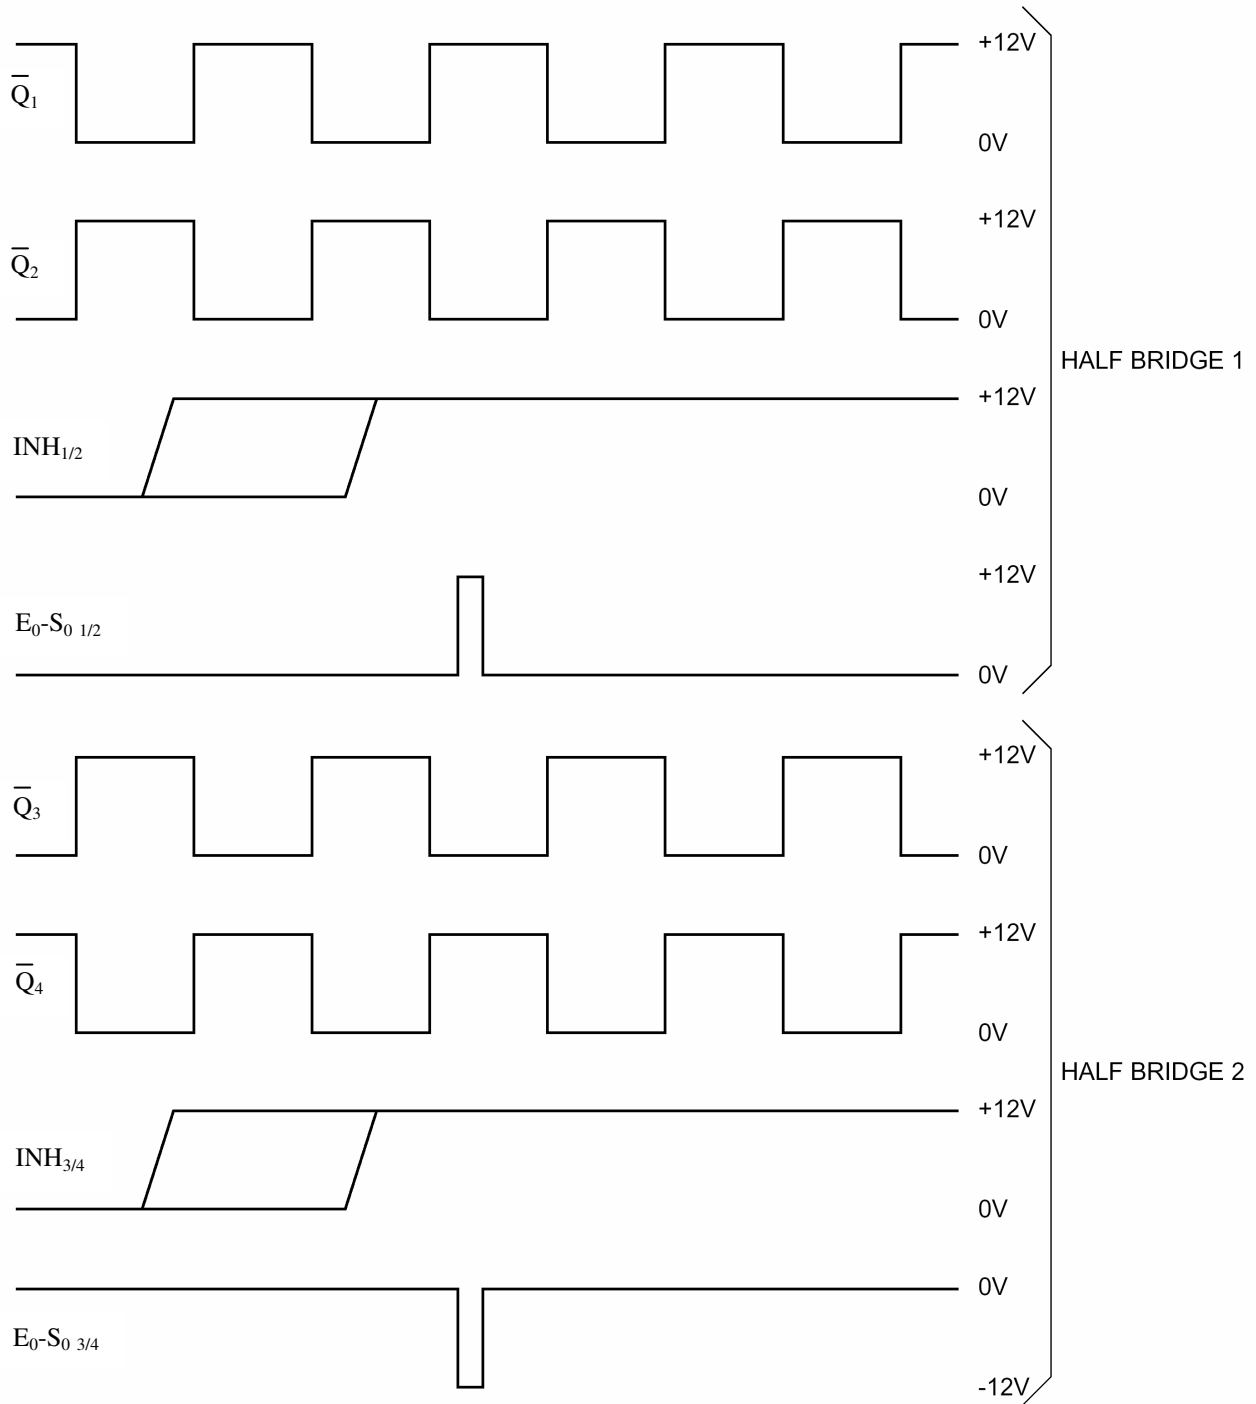

Figure 11: example of input signal for 4 x APTLGF140U120T modules connected in a Full Bridge configuration
- The startup signal, between E₀-S₀, may also be implemented by a negative pulse synchronized with input signal Q being low and forcing the lower switch to turn ON. Examples of both startup sequences being used in the startup of a full – bridge configuration is shown in figure 11.